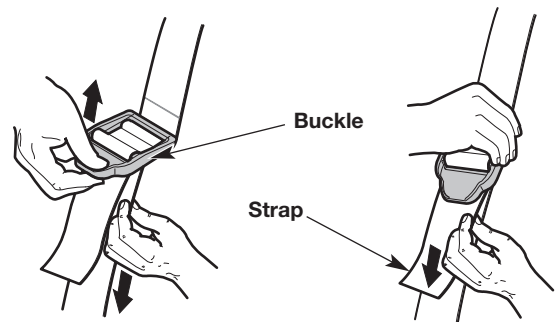

Fig. 9
6. Adjust the shoulder strap to fit the operator (Fig. 9). Pull the buckle up to loosen the shoulder strap. Pull the strap down to tighten the shoulder strap.